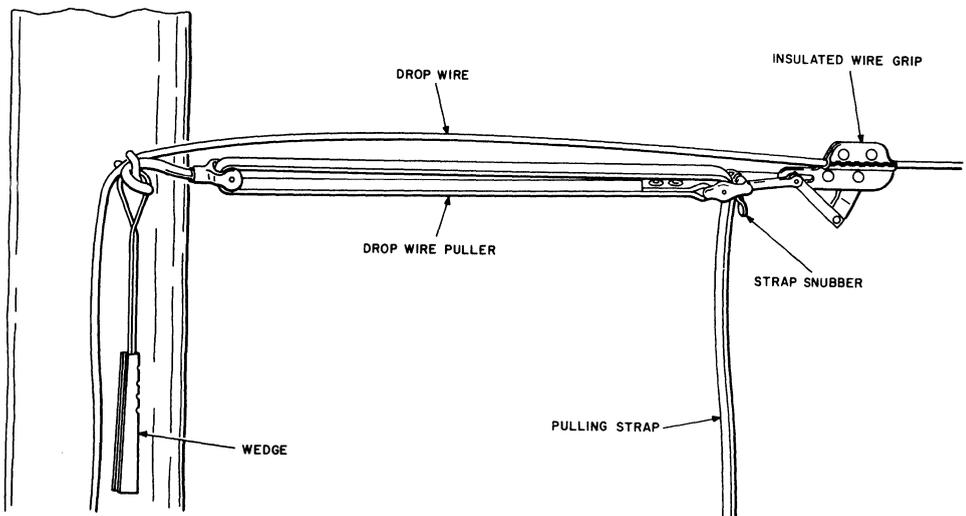

Fig. 3—Tensioning Drop Wire
- (1) Suspend the drop wire puller on the drive hook by means of its hook. Pull up on the drop wire handtight and hold it over the drive hook with one hand. With the free hand reach out and place the wire grip on the drop wire at arm's length. This setup for tensioning drop wire is shown in Fig. 3.